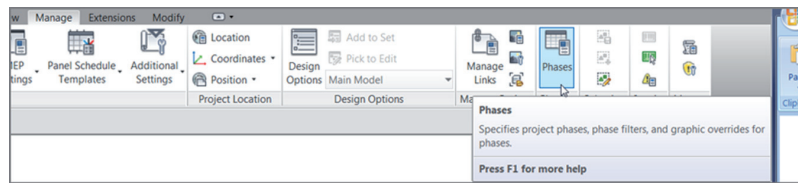

FIGURE BC7.1: Clicking the Phases button
1. On the Manage tab, click the Phases button on the Phasing panel, as shown in Figure BC7.1.